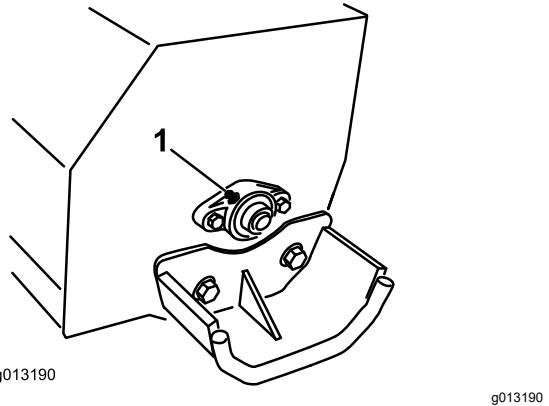

Figure 6
- Clean the grease fitting with a rag (Figure 6).